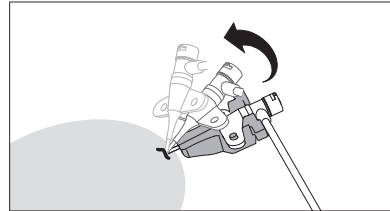

Figure 10
15. Remove junction hub advancer from catheter by gently lifting up on the catheter while holding the junction hub advancer (refer to Figure 10). Once disengaged, remove junction hub advancer and discard.